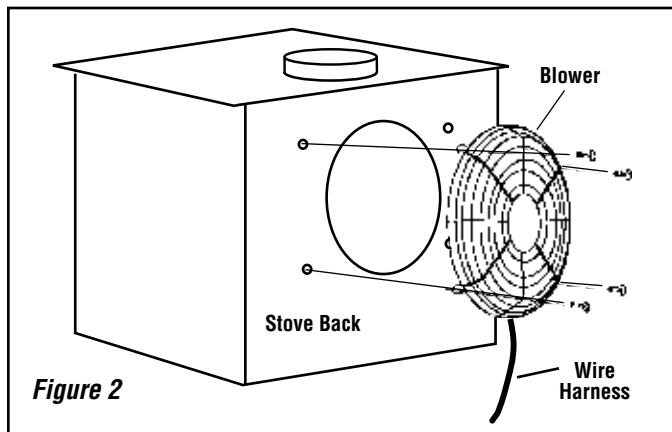

Figure 2
- Step 3.** Using a 5/32" allen wrench/T-handle, remove the four screws and washers from the back of the stove. Next, mount the blower as shown in **Figure 2** and the following instructions; Ensure the wiring harness on the blower cage is at the bottom right when mounted to the back heat shield of the stove. Be aware that the blower wiring harness should be clear of the back of the firebox and blower fan blades. The blower can now be fastened to the back of the heat shield with the four screws and washers that were removed earlier in this step using the 5/32" allen wrench/T-handle. Visually inspect that the blower is centered in large opening on the back of the heatshield. If not centered in the opening the fan blades could make contact with the heatshield making excessive noise. Once everything is correctly in place you can then tighten down all four screws. **Tighten the screws moderately tight but do not over tighten as you may strip the holes out.**